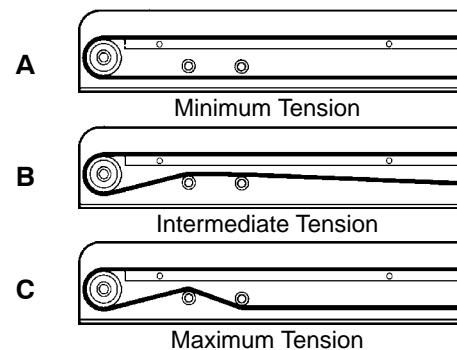

Figure 21
NOTE: Belt tension can be applied in three different settings (A, B or C, Figure 21) for tension adjustment.
1. Locate tension versus conveyor belt as required for tension setting (A, B or C of Figure 21). Insert tension pin assembly (AL of Figure 22) into conveyor frame through hole (AM).